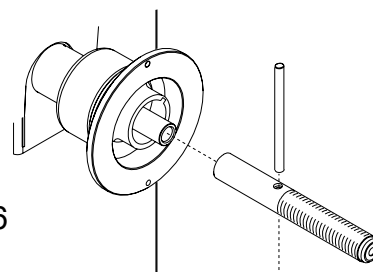

Figure 6
**A.** Mount the threaded shaft onto the arbor of the balancer. Tighten firmly using supplied rod. (Figure 6).